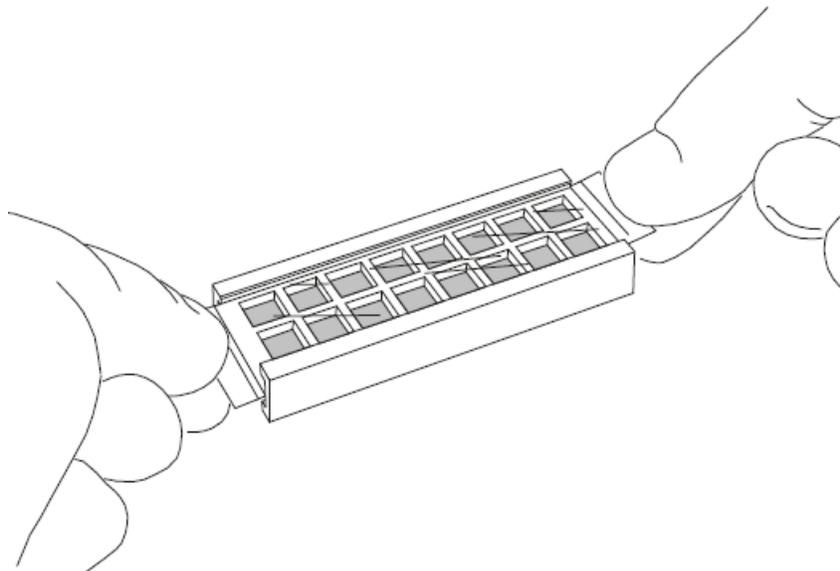

Figure 7
7. After filling, the wells may be covered with ProPlate Seal Strips (part 204874) to prevent evaporation. To cover with a ProPlate Seal Strip, remove the strips' white liner and expose the adhesive side to the wells while aligning the edges of the strip with the clips as shown in Figure 7. Ensure that the well surface is dry before seal strip application.